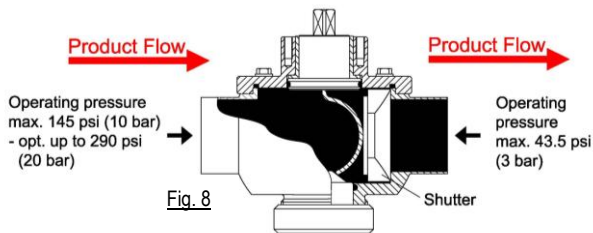

Fig. 8
Temperature	Pressure max (see Figure 8).
- Recommended installation (see Figure 8)